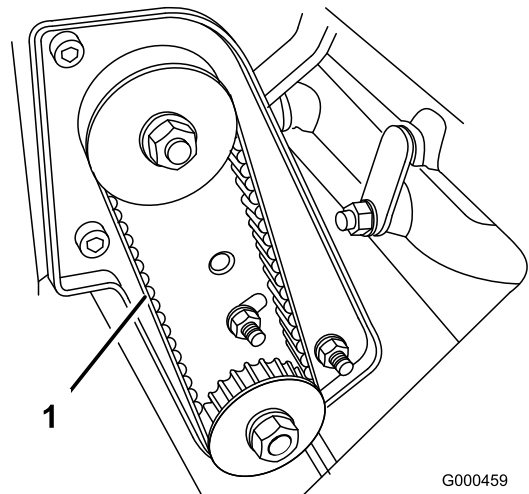

Figure 37
2. Check tension by depressing belt (Figure 37) at mid span of pulleys with 4 ± 1 lb. of force. Belt should deflect 1/4 inch. If deflection is incorrect, proceed to next step.